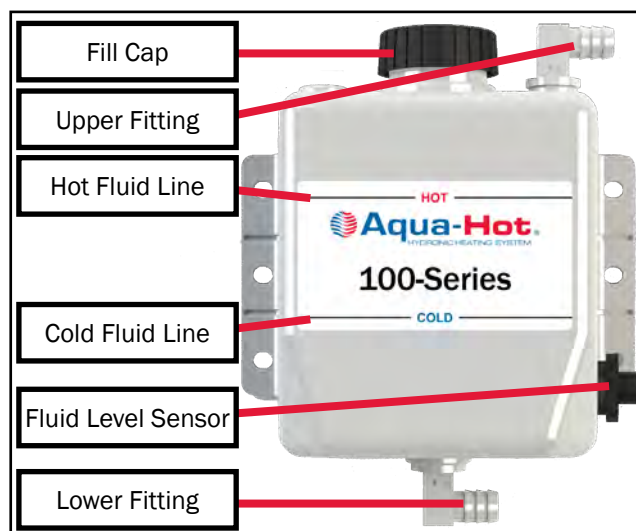

Figure 17
5. Place a hose which runs from the lower fitting of the expansion bottle to the expansion bottle connection shown in Figure 17. Secure this hose in place with 2 constant tension hose clamps.